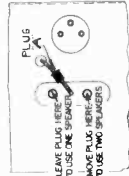

FIG. 13A
1. Remove the front cover and observe the position of the plug A as shown in Fig. 13. To use an additional speaker at the same time as the speaker in the set, it is to be inserted into the adjacent socket as indicated by the arrow in Fig. 13A.